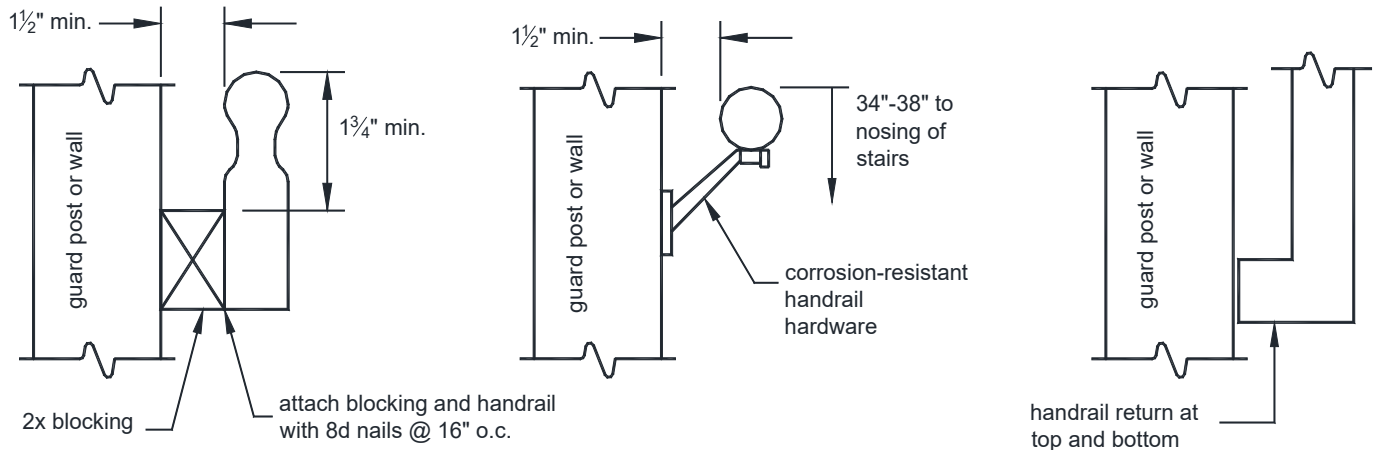

FIGURE 44: HANDRAILS
- Handrails shall be attached to stair guard or exterior wall acting as a barrier as shown in see FIGURE 44.